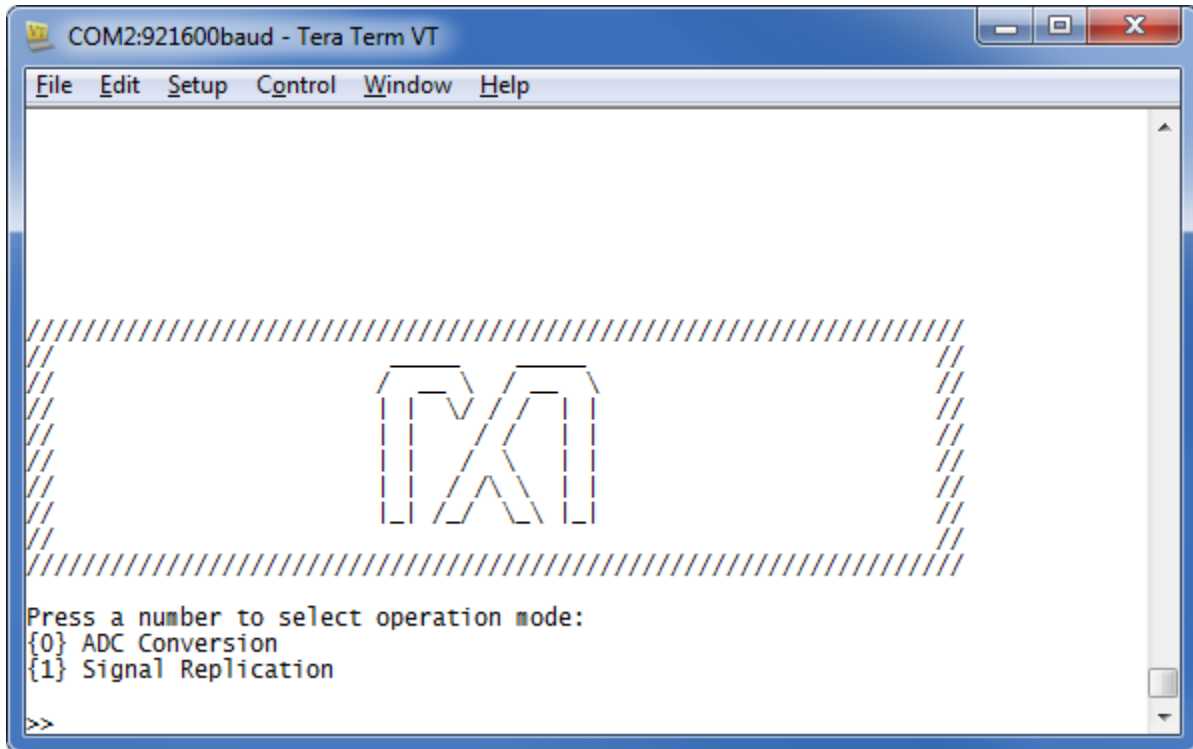

Figure 6. MAXREFDES32 Main Menu
- 10) The MAXREFDES32 software will display a menu (Figure 6).